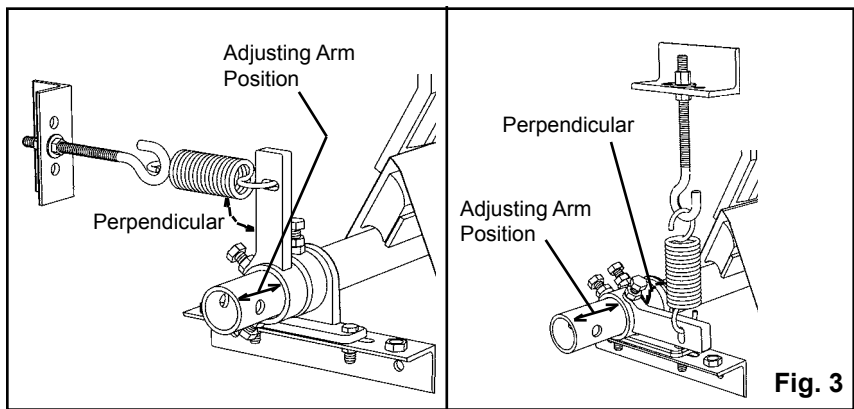

Fig. 3
c. Install an adjusting arm onto one pole end. Rotate the tensioner around the pole until the optimum mounting position is located. The J-bolt mount can be located in any position 360° around the pole. The only requirement is that the J-bolt and spring remain perpendicular to the adjusting arm (Fig. 3). NOTE: adjusting arm can be located any place along the end of the pole to align with the J-bolt mount.